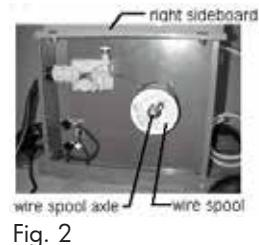

Fig. 2
2. Hold the spring and wire spool into wire-feed spool axle successively, and then hold the wing nut (fig. 2).